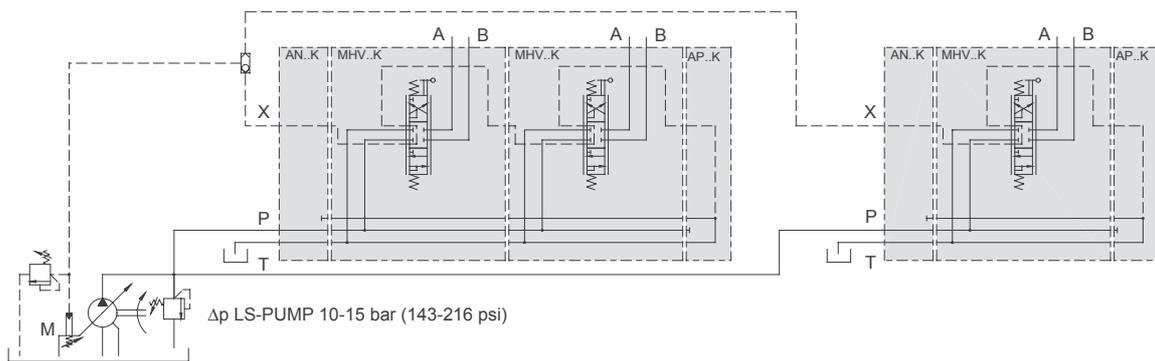

Fig. 28
2. Δp -adjustment (see fig. 28, 1)